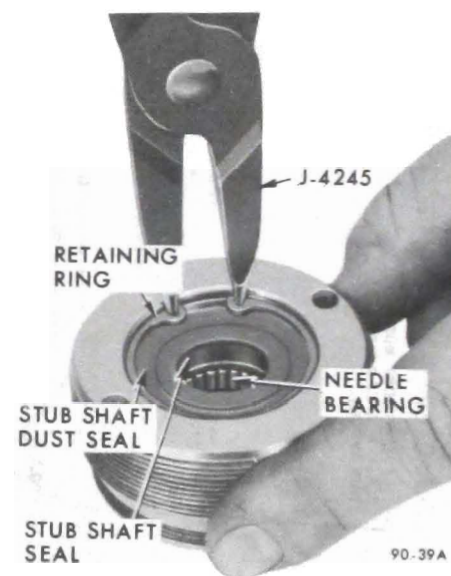

Figure 90-49 Removing Stub Shaft Seal Retaining Ring
3. Remove stub shaft seal retaining ring using No. 3 truarc pliers J-4245 and remove and discard dust seal. See Figure 90-49.